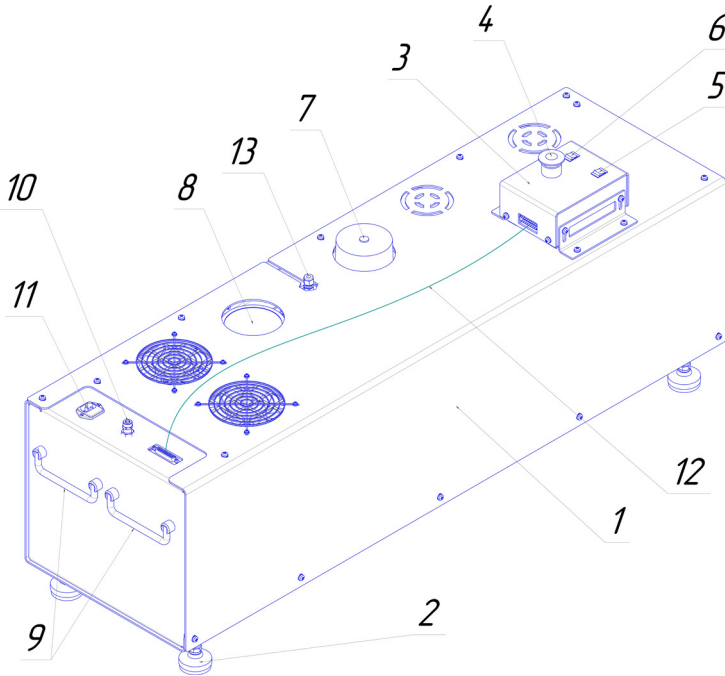

Fig. 1.
4.1 The booster's appearance is shown in Fig. 1.